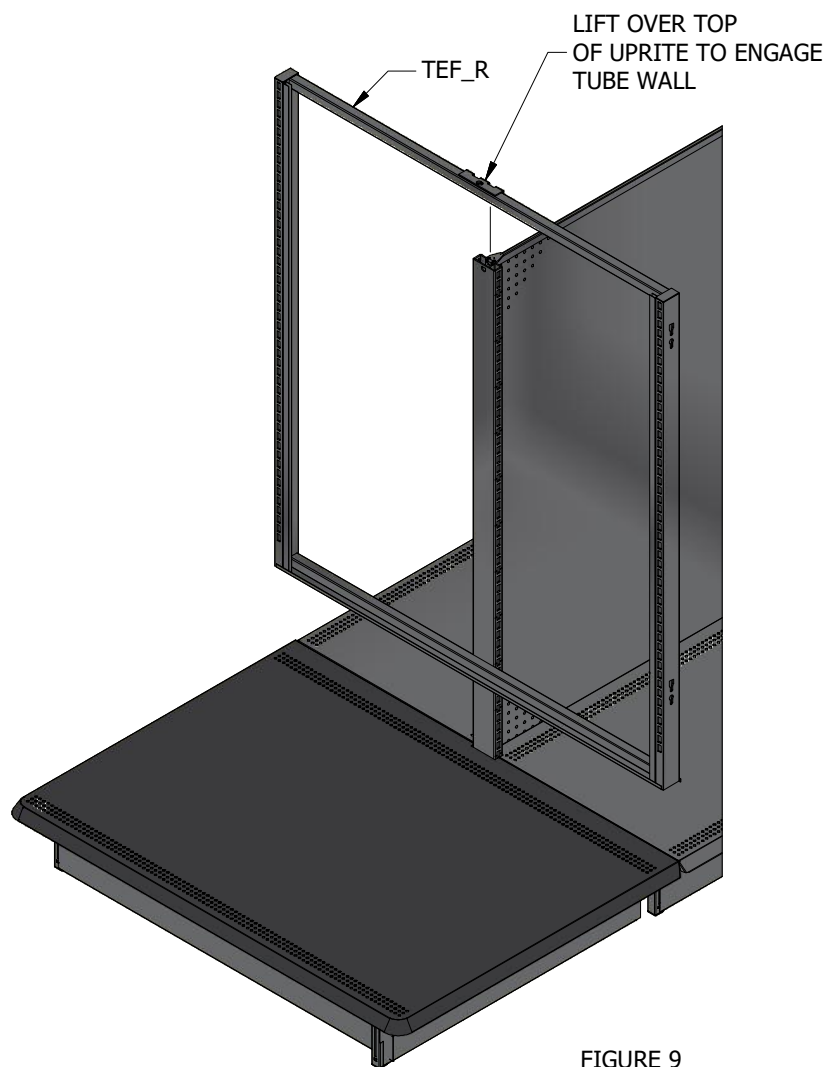

FIGURE 9
STEP 7: Install end frame (TEF_R) by sliding bracket vertically down into the top opening of the end uprite as shown in Figure 9.